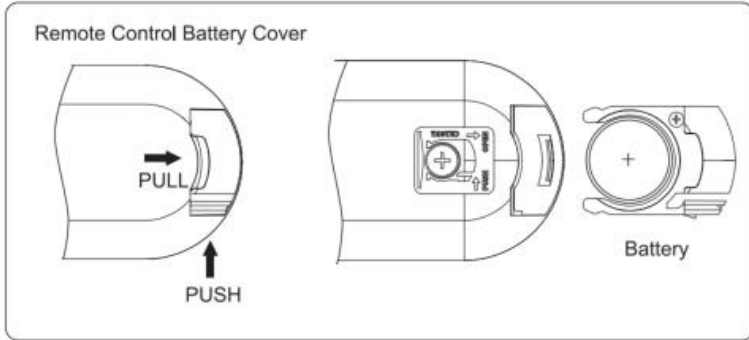

Fig.6
1. Remove the card in the direction of the arrow to power on the remote control. (Fig.6)